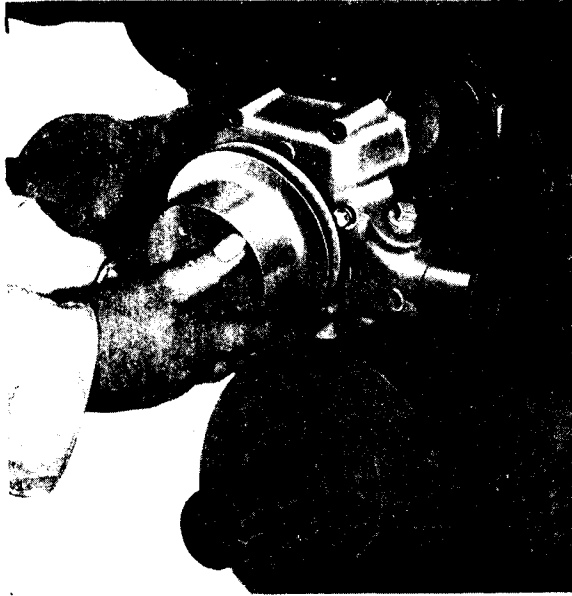

Fig. L.3.
3. Unscrew the six setscrews securing the pump to the cylinder block and remove the water pump (See Fig. L.3).